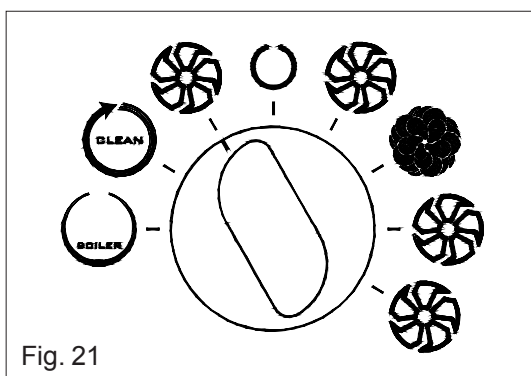

Fig. 21
- Turn the knob to the position shown in Fig. 21.